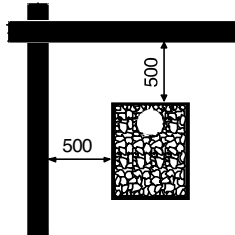

Figure 1.
1. Minimum safety distance from the vertical surfaces of the heater to unprotected wood structures: 500 mm. (Figure 1).